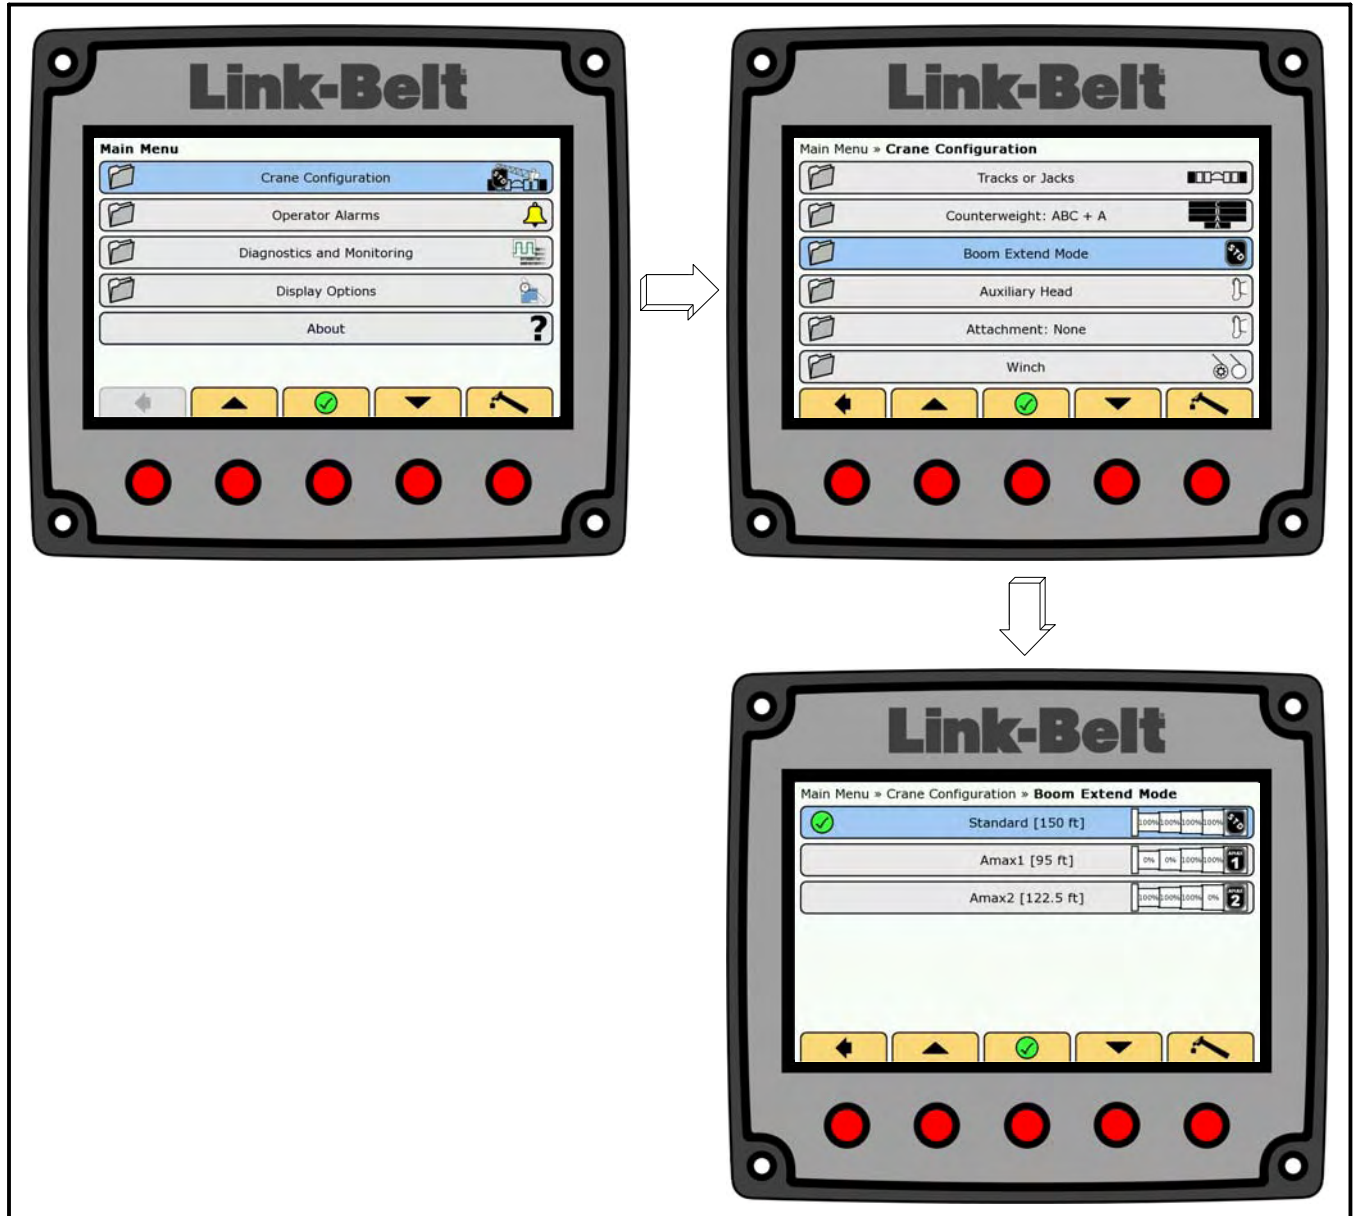

Figure 1–77
9. On the Crane Configuration menu, scroll to Boom Extend Mode, and press the OK/Enter button . Refer to Figure 1–77.